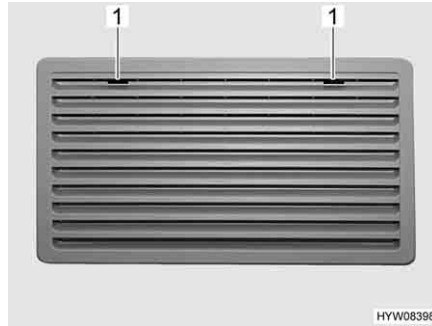
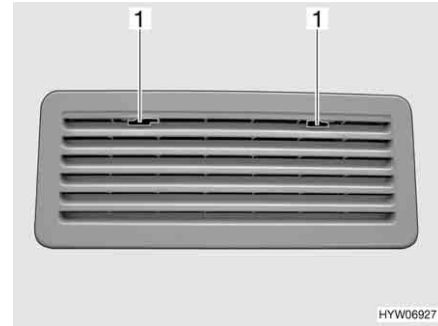

Fig. 214 Refrigerator ventilation grill
Fig. 215 Refrigerator ventilation grill
- Move the locking device (Fig. 214,1 or Fig. 215,1) to the middle.